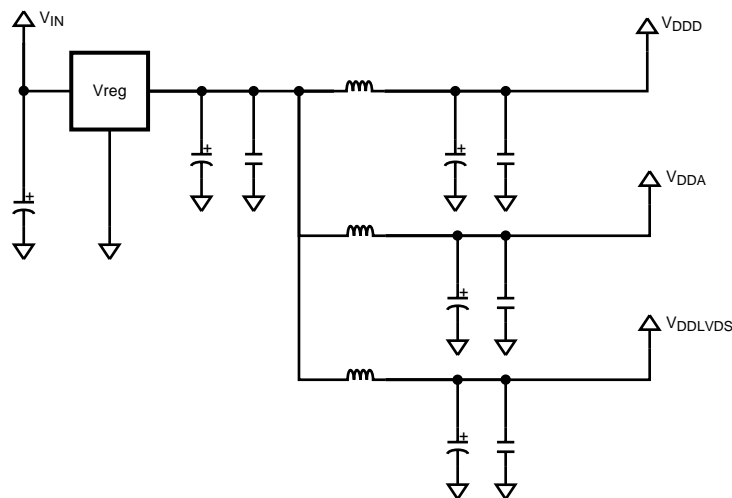

Figure 1. Recommended Setup
- (1) Static voltage levels on V_{DDD} must be at the same voltage or slightly higher than V_{DDLVD}S or V_{DDA}. Therefore, driving all three power supplies from a common linear voltage regulator is recommended. Please see Figure 1.